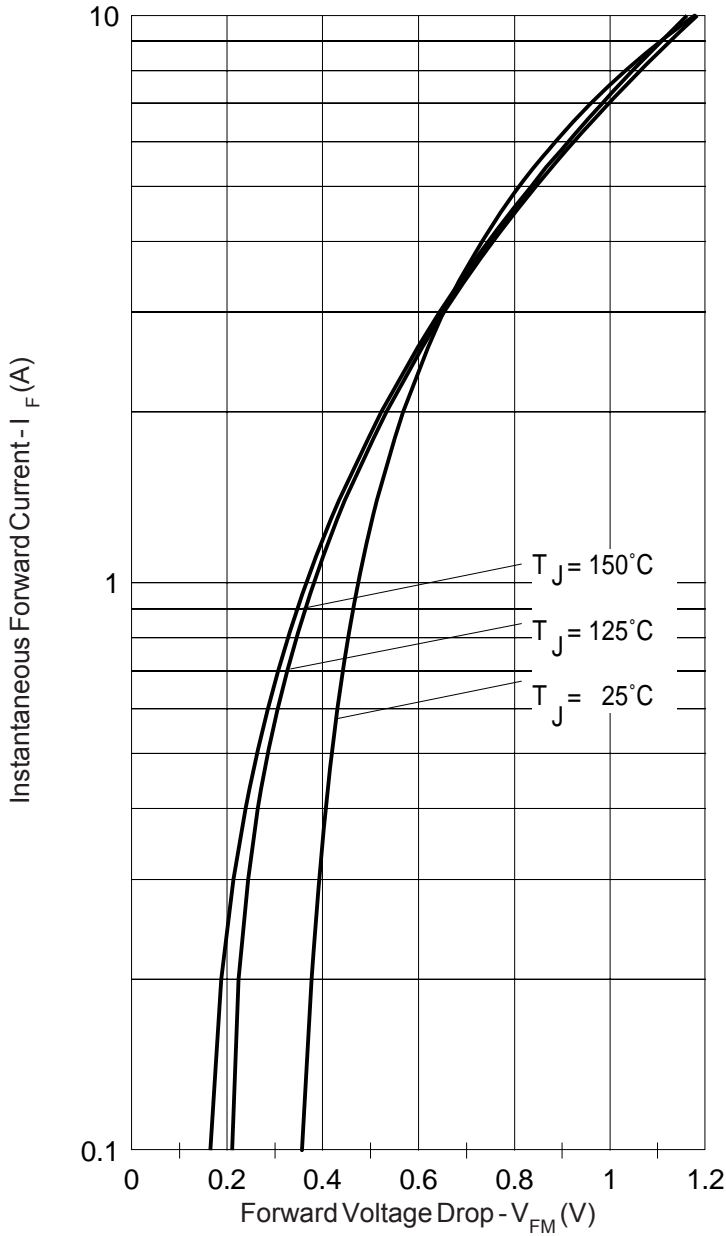

Fig. 1 - Max. Forward Voltage Drop Characteristics (Per Leg)
| V_{FM} Max. Forward Voltage (1) Drop * See Fig. 1 | 0.43 | 0.48 | V | @ 1A | $T_J = 25^\circ\text{C}$ |